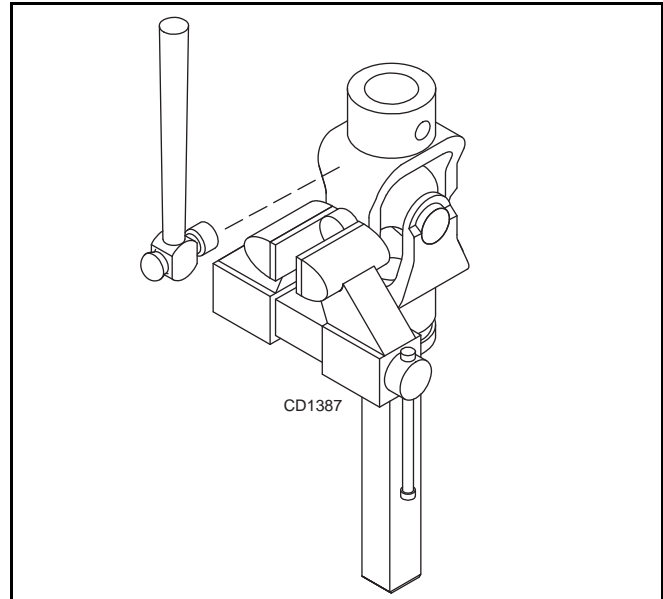

Figure 21
3. Clamp cup in vise as shown in Figure 21 and tap on yoke to completely remove cup from yoke. Repeat Step 2 & Step 3 for opposite cup.